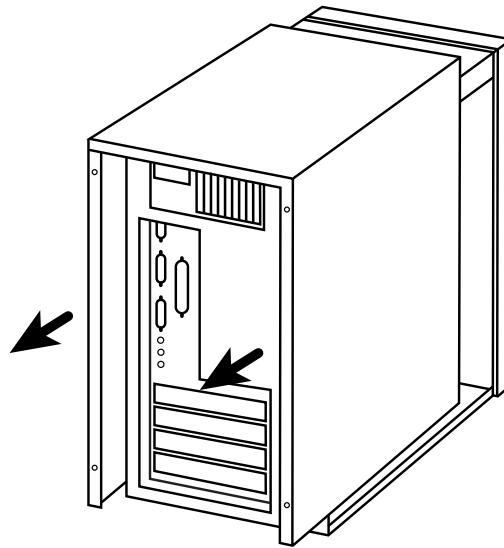

FIGURE 3-1. REMOVE THE SYSTEM'S COVER
2. Remove the system cover and select any empty PCIe slot. See Fig 3-1.